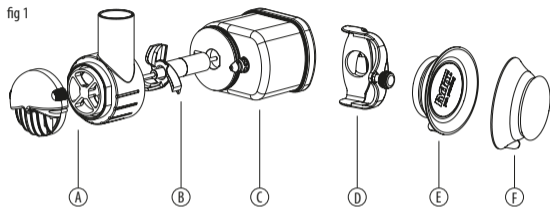

fig 2
- Insert the rotation sphere of the base in the proper slot on the suction cup-magnet support. - Fig. 2/2a -